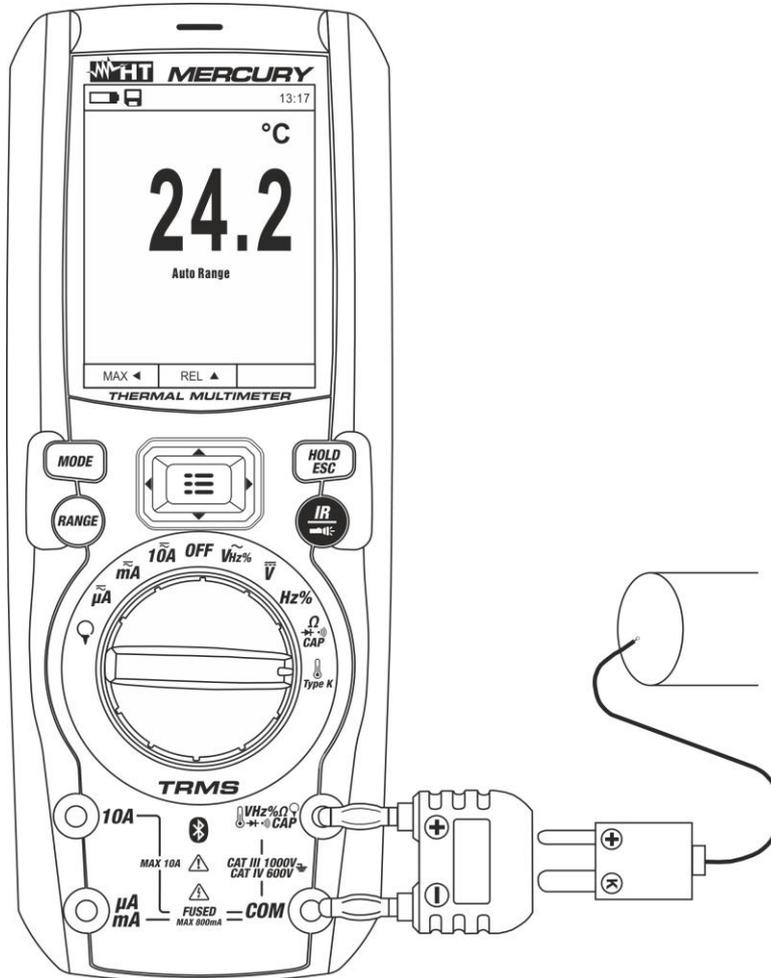

Fig. 27: Use of the instrument for Temperature measurement
3. Insert the provided adapter into input terminals **VHz%ΩCAP** (polarity +) and **COM** (polarity -) (see Fig. 27).